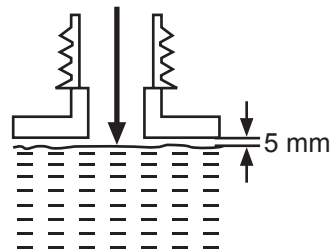

Fig. 18
- > Unscrew and remove the fuel tank cap (28).
- > Fill correctly mixed fuel/oil into the tank using a fuel funnel fitted with a filter to avoid debris entering the tank. Do not overfill. Leave a minimum 5 mm of space between the top of the fuel and the inside edge of the tank (28) to allow for expansion (Fig. 18).